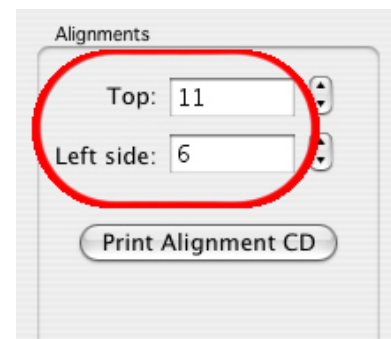

Figure 3
5. If the circle does not cross the alignment guide at both zero points, change the **Top** and **Left Side** alignment values by the number at which the circle does cross the guide (See figure 3).